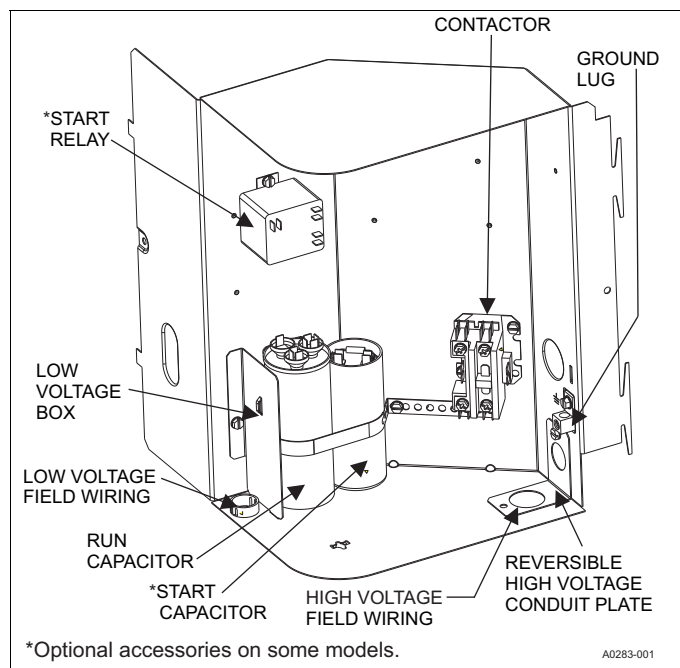
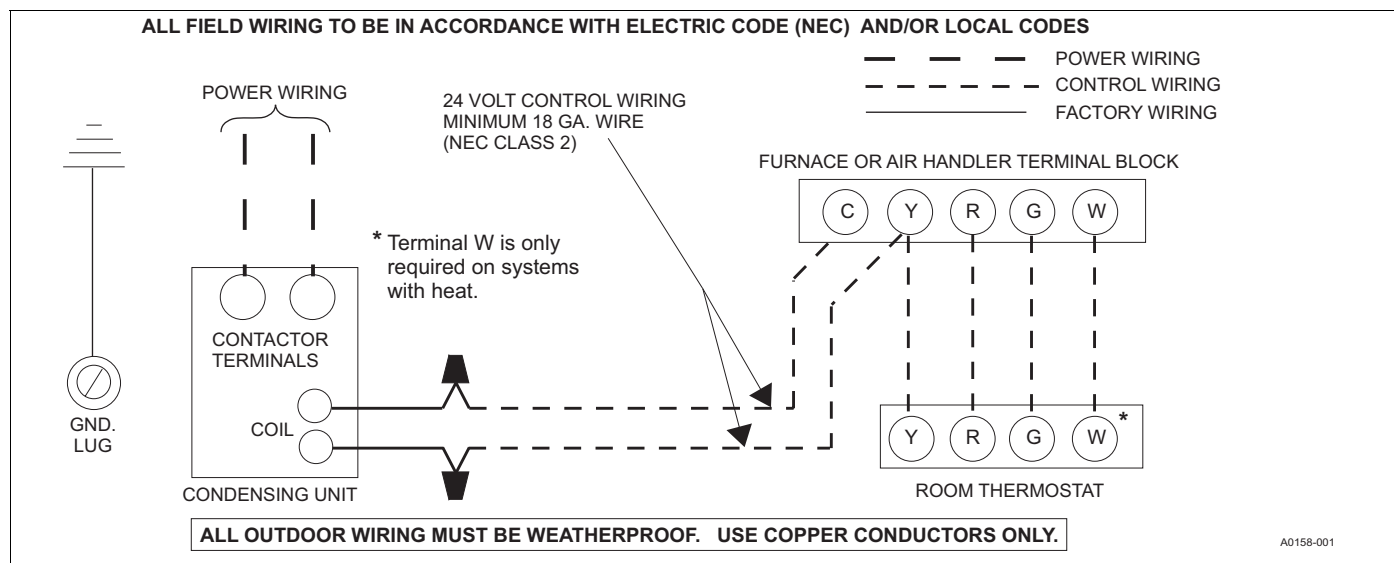

FIGURE 10: Outdoor Unit Control Box (Single Phase)
FIGURE 11: Typical Field Wiring (Air Handler / Electrical Heat) (Single-Phase)
1. Route low voltage wiring into bottom of control box as shown in Figure 10. Make low voltage wiring connections inside the low voltage box per Figures 11 - 13.